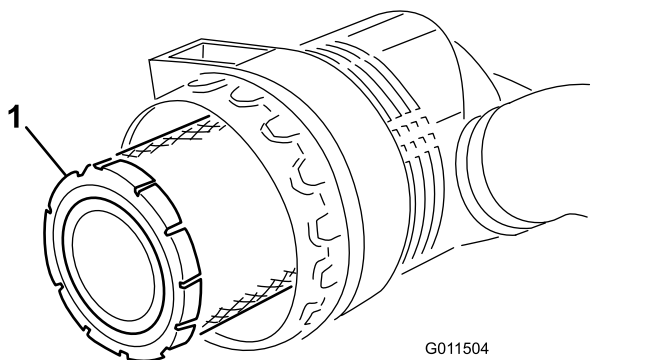

Figure 76
5. Remove and replace the primary filter (Figure 76).